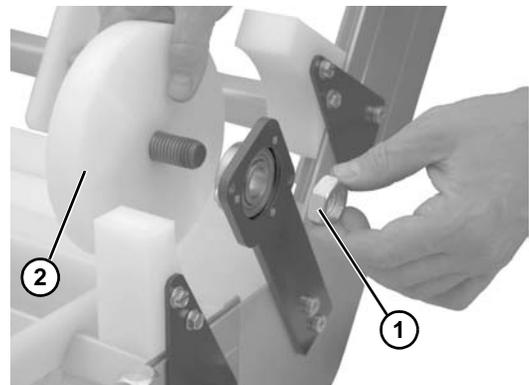

Figure 83
4. Remove the hex jam nut (Figure 83, item 1) and the hold down roller (Figure 83, item 2). Repeat on opposite side.